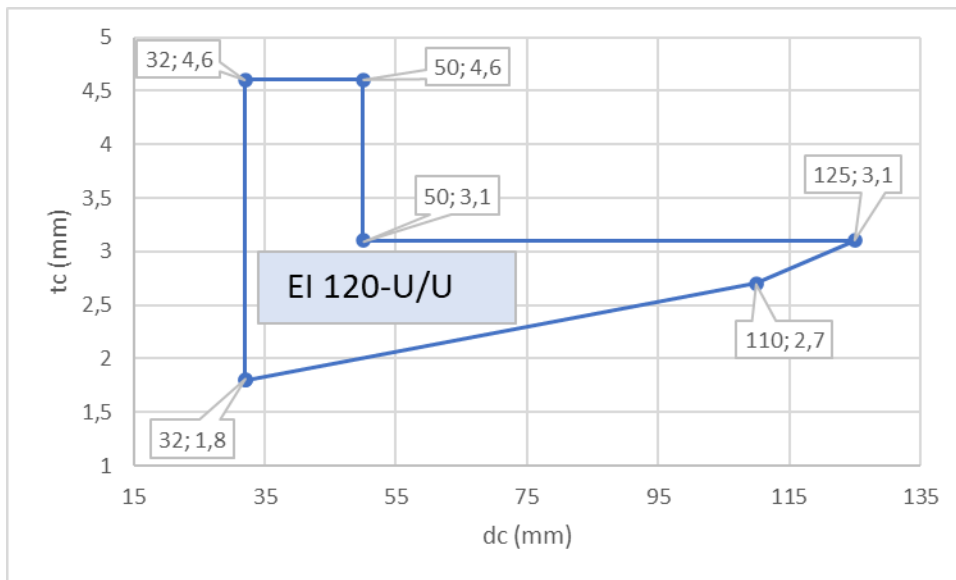
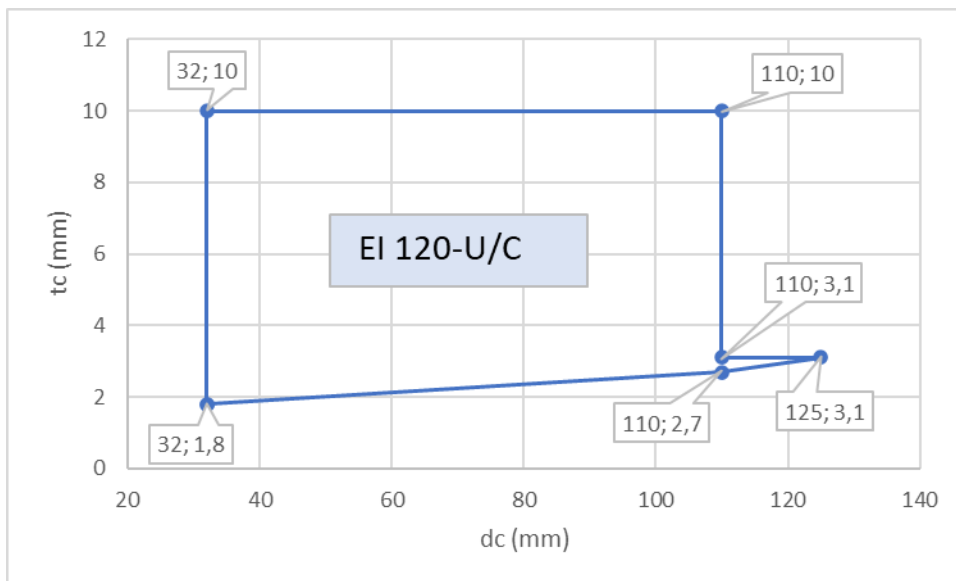
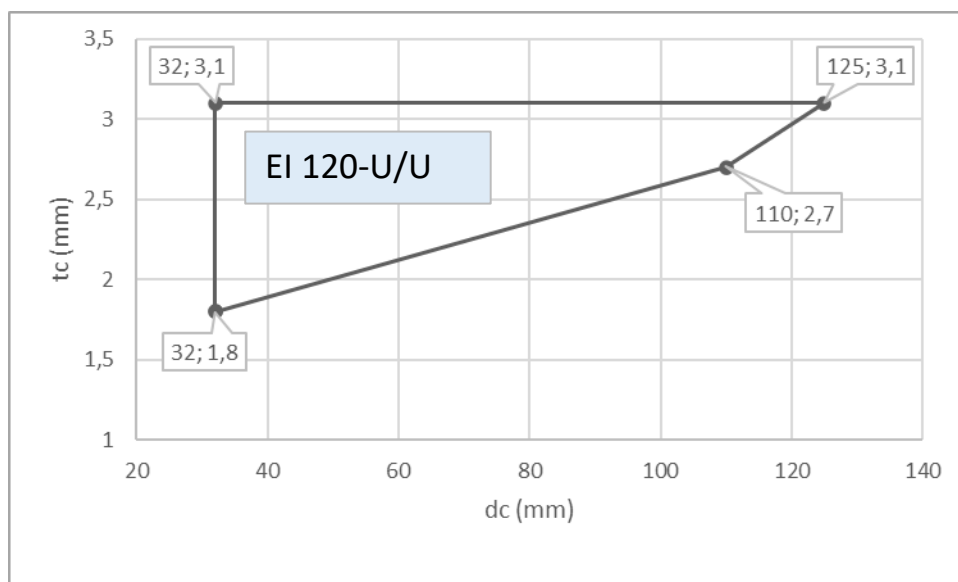
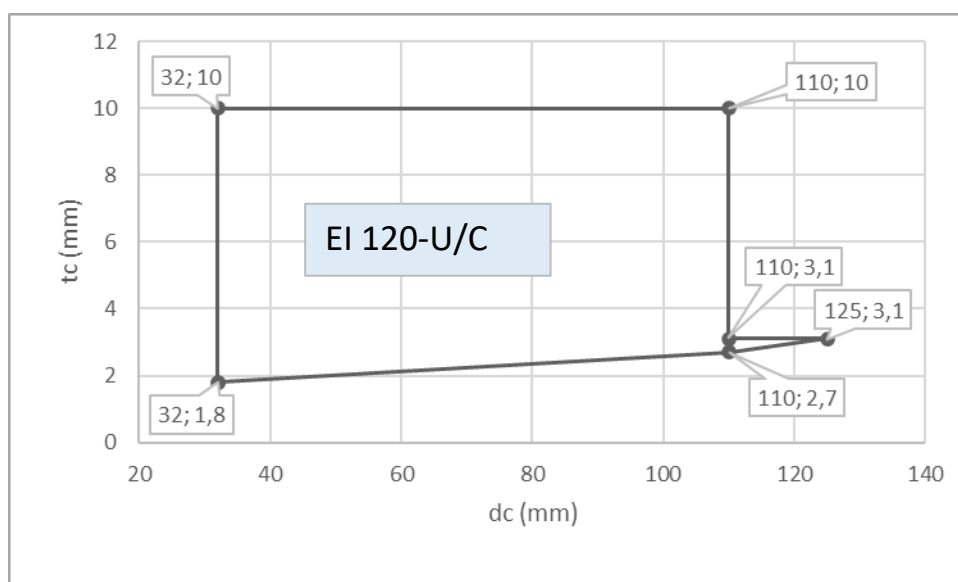

Figure 56: Classified pipe range for pipes in DG 1 made of PE for EI120-U/U
Figure 57: Classified pipe range for pipes in DG 1 made of PE for EI120-U/C
Figure 60: Classified pipe range for pipes in DG 1 made of PP (EN 1451-1) for EI120-U/U
Figure 61: Classified pipe range for pipes in DG 1 made of PP (EN 1451-1) for EI120-U/C
Classification shown in Figure 56 and Figure 57 is valid for pipes made from:
Classification shown in Figure 60 and Figure 61 is valid for pipes made from:
- For pipes, covered in section 8.4.4.1, 8.4.4.2 (only Figure 56), 8.4.4.3, 8.4.4.4, 8.4.4.5 (only Figure 60)